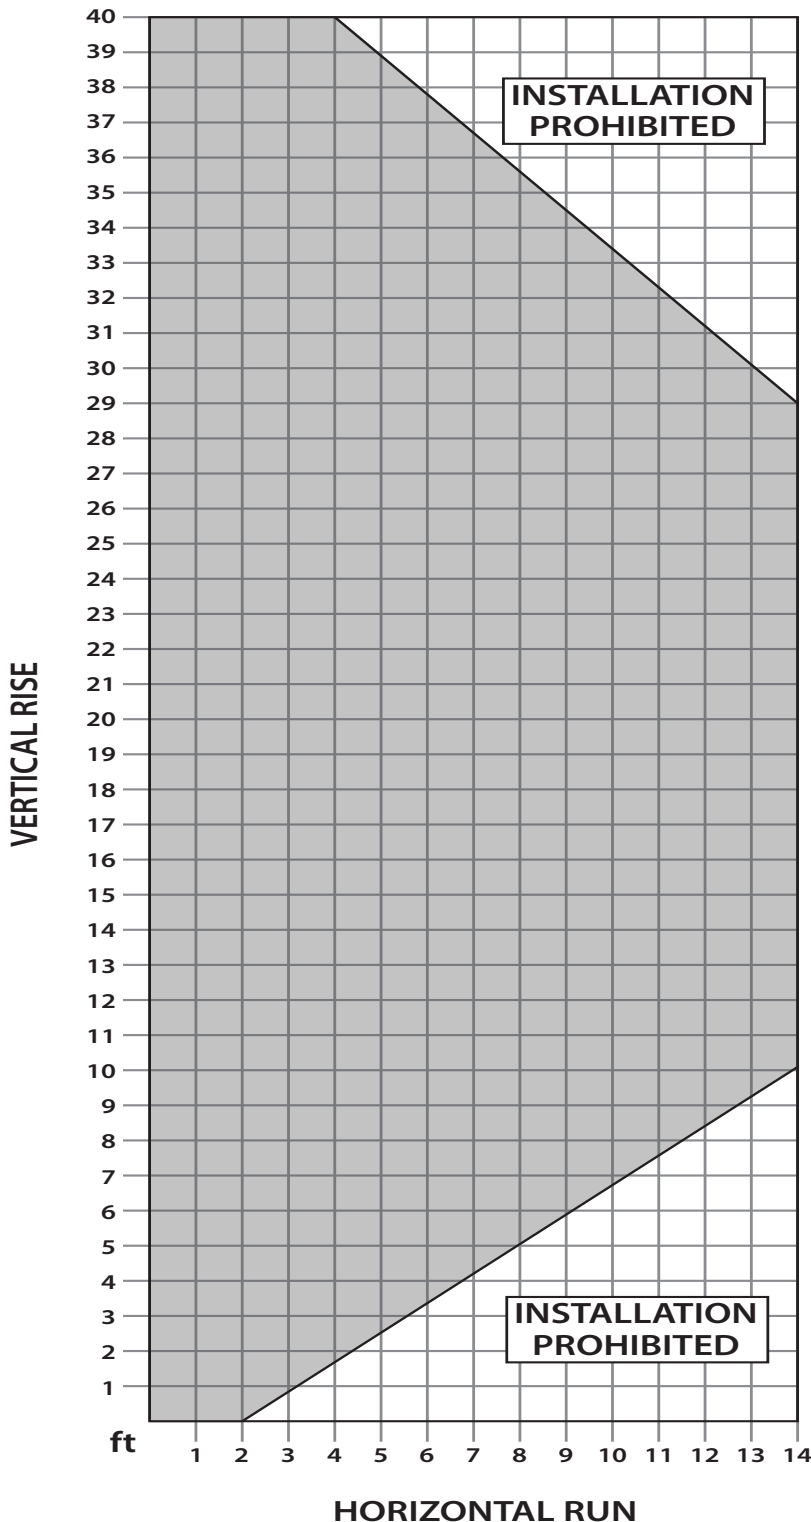

Figure 26.1 Possible Vent Configurations for Top Vented Vertical and Horizontal Terminations.
Figures 26.1 and 26.2 show the range of possible vent configurations if the unit is top or rear vented, for vertical and horizontal terminations. Any layout that remains within the shaded areas is acceptable. Having the fewest number of elbows is ideal, as they tend to disrupt air movement. Using 45° elbows is preferable to using 90° elbows. Also, a shorter vent system will perform better than a longer one. When top vented, the total length of horizontal vent pipe can not exceed 14 feet (4.27m) and the total vent length can not exceed 44ft (13.4m). Any combination of rise and run can be used as long as it lays within the shaded area (a total of two (2) 90° elbows or four (4) 45° elbows can be used. In addition to what is shown, if a 90° elbow is used in the horizontal plane, 3 feet (91.4cm) must be subtracted from the allowable horizontal run (for each 45° elbow, 1½ feet must be subtracted).